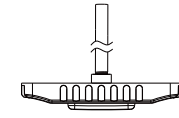

Figure 5
2. Screw the fixture to the 3/4"NPT Stem(Figure 5).